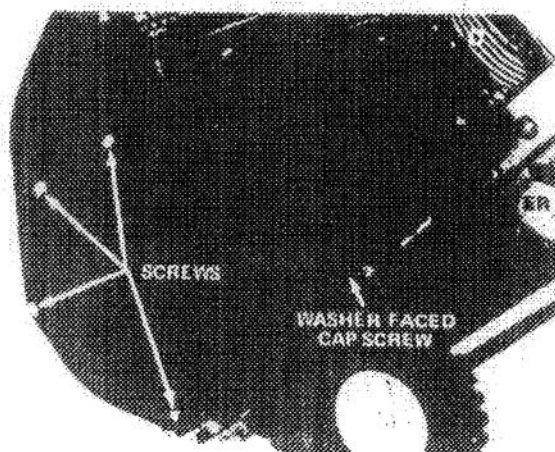

Figure 15
2. Remove washer faced cap screw, four screws, and lock nuts holding drive cover in place (Fig. 15). Remove cover and set it aside.
7. Install drive cover with washer-face cap screw, four screws, and lock nuts (Fig. 15).